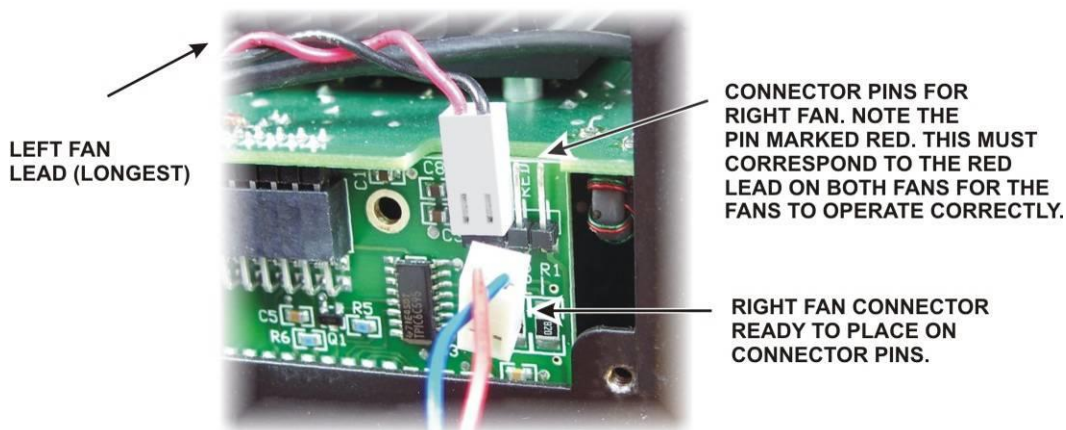

Figure 5. Reconnecting Rear Panel Fans on K3/100.
- Reconnect the fans to the connectors on the KPAIO3 board where you removed them. Be sure you orient the fan connectors so the red leads go to the pins on the fan connectors marked RED on the pc board (see Figure 5).